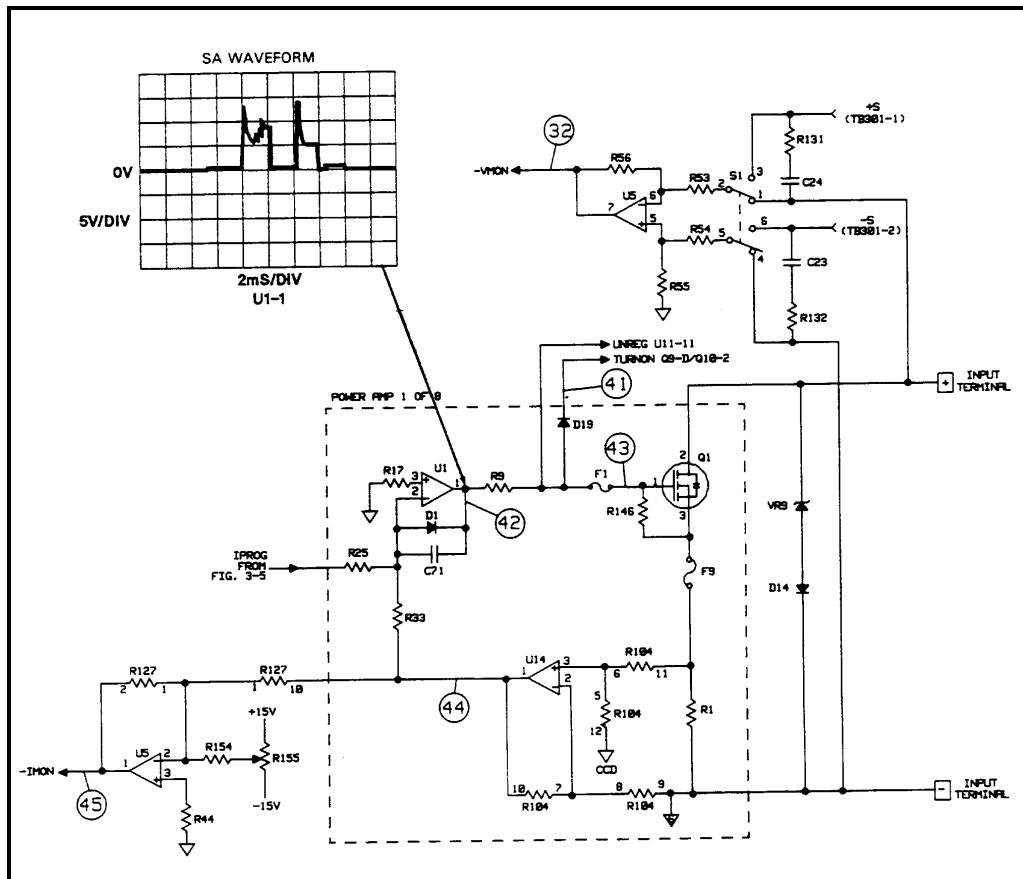

Figure 3-6. Input Power Stages Troubleshooting
Input Power Stages Troubleshooting (Figure 3-6)
There are eight identical input power stages connected in parallel. Figure 3-6 shows one of the eight. This stage consists primarily of a power FET (in quad array Q1), a monitor amplifier (U14) and an error amplifier (U1). Schematic details are shown on Figure 6-1, sheet 6.
To troubleshoot the input power circuits, place the Electronic Load in the S.A. mode by connecting the jumpers in test headers TP201 and TP301 in the S.A. mode positions (see Figure 3-2). The waveform shown in Figure 3-6 at the output of the error amplifier can only be generated in the S.A. mode. Check that this waveform appears at the output of the error amplifier in each input power stage. Refer to Figure 6-1, sheet 6 to locate the output pin of each error amplifier. Checking each stage may isolate the problem to a specific stage.
If the problem is isolated to a specific stage, turn the S.A. mode off (remove jumpers) and check the test points ④₁ through ④₄ that correspond with applicable circuit points in the defective stage. Use the measurement conditions specified in Table 3-3. Also, check the applicable fuses in the specific stage. As shown in Figure 3-6, fuses F1 and F9 are used by stage 1.